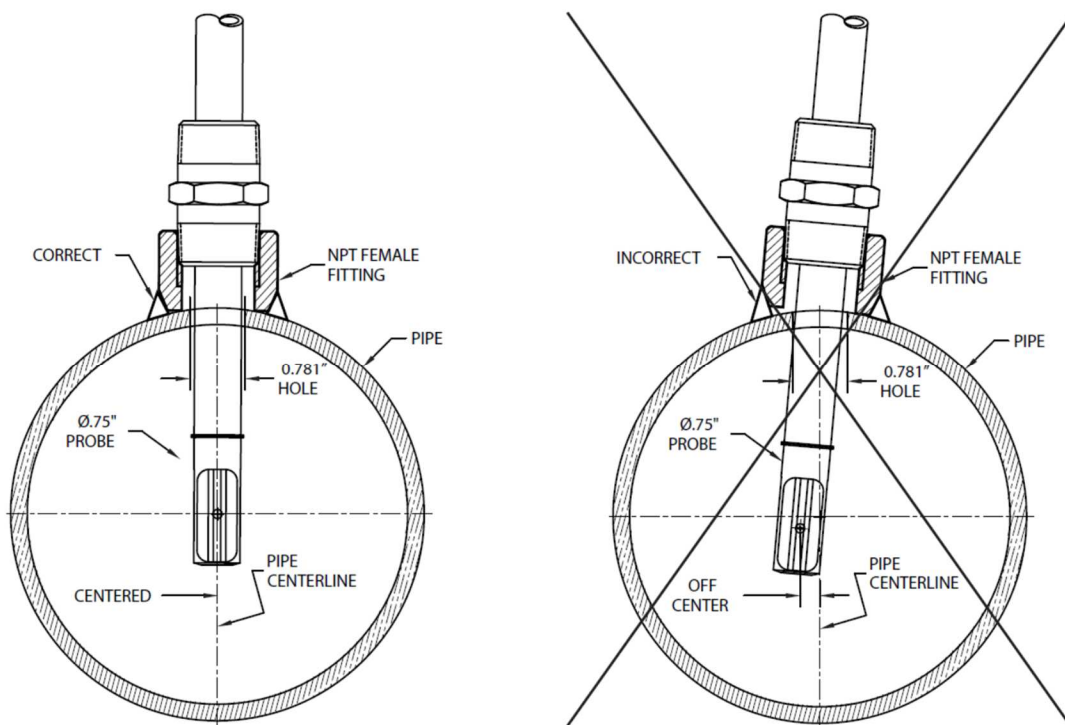
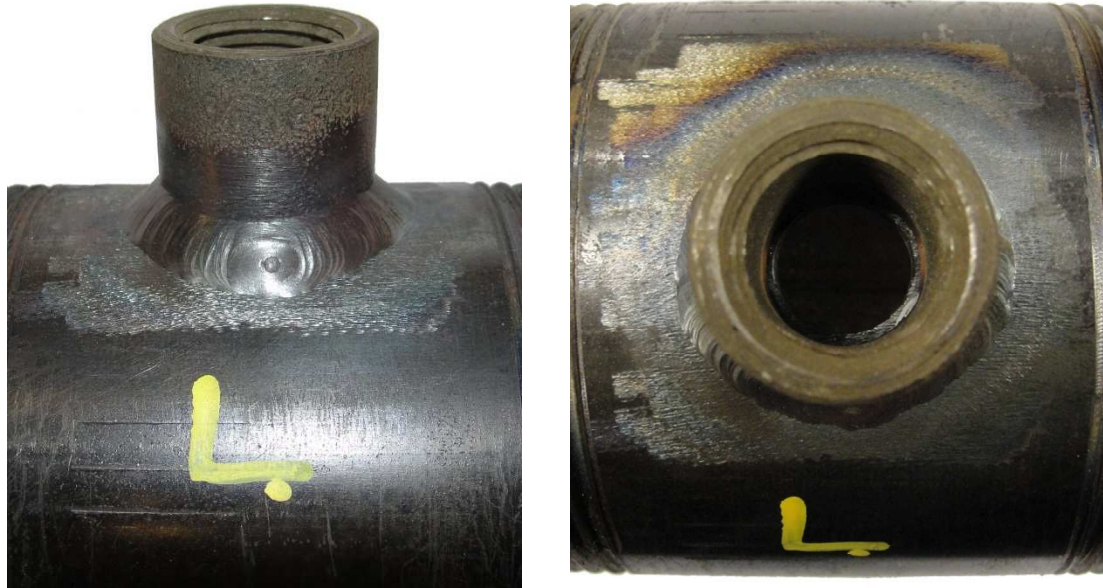

Figure 3: Mounting of a 3/4" NPT Half Coupling on the Pipe Centerline
Figure 4: 3/4" NPT Half Coupling Welded to Pipe with 13/16" Hole Drilled Through Center
5. If a $3/4"$ NPT or larger half coupling is not available in a suitable location, one will need to be welded onto the pipe with a $13/16"$ ($0.813"$) or larger hole drilled through the pipe wall in the center of the half coupling. The coupling must be parallel to the pipe centerline, as shown in Figure 3, so that the probe can be inserted into the center of the pipe at a later step. The pipe should look similar to Figure 4 before the packing gland and the meter probe are installed.